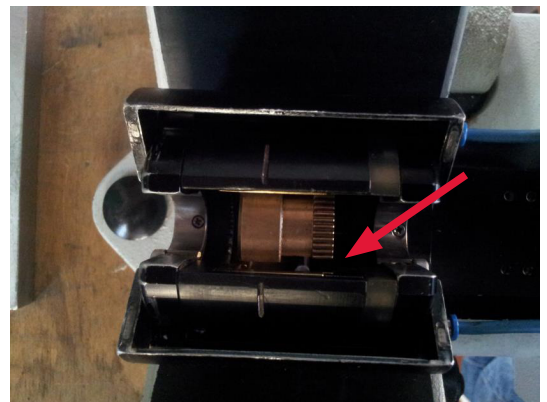

Fig. 1 Starting position for the cleaning of the gear
1. Without disassembling the weld head, turn the gear wheel (rotor) into position as shown in Fig. 1.